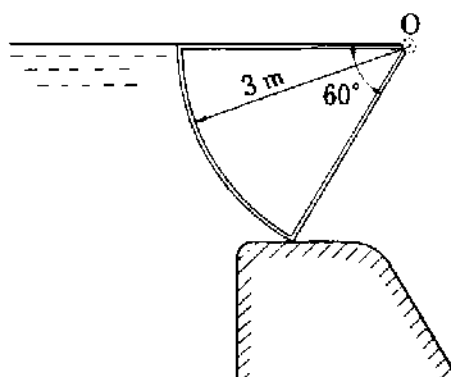

Fig. 3.29
10. A circular segment water gate, 5 m long, is set as shown in Fig. 3.29. Water is stored up to the upper face of the water gate. Obtain the magnitudes of the horizontal and vertical components of force and also the magnitude and the direction of the resultant force acting on this water gate.